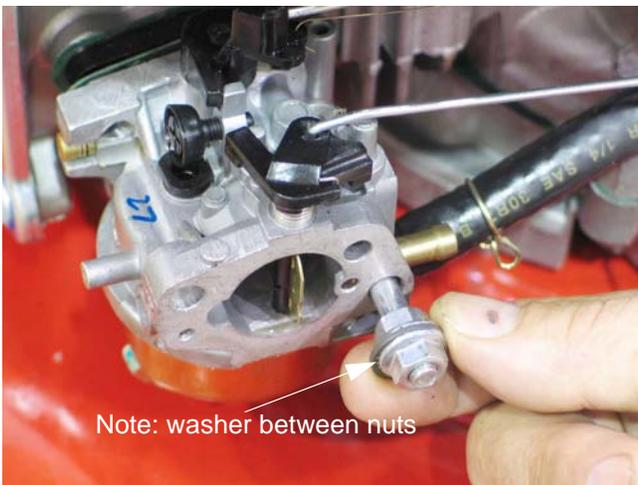

Figure 3.13
- 2c. After the second stud is removed, the carburetor can be maneuvered to disconnect the linkages. See Figure 3.13.